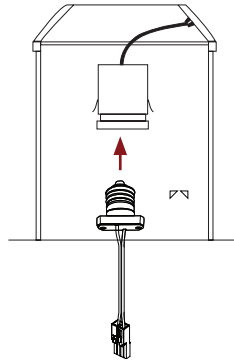

Figure 7
6. Screw in retrofit adapter into medium base socket (Figure 7)